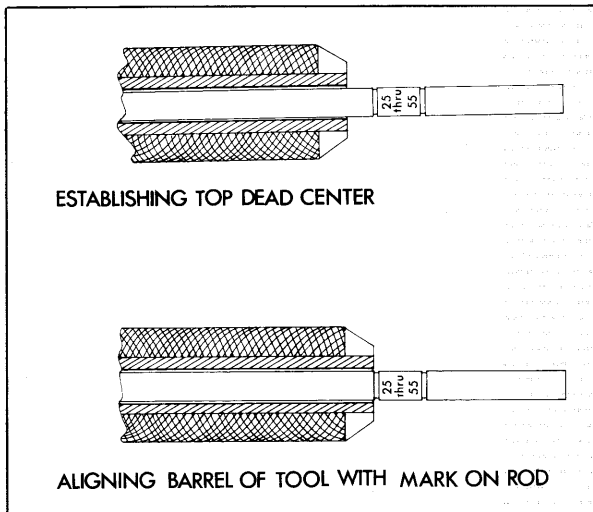

Figure 1 - Locating Top Dead Center
- E. Insert rod portion (Special Tool T2937A) of timing tool in barrel with two (2) marks identified as 25 thru 55 H.P. towards the outside.
- F. Holding the rod tightly against the piston, rotate crankshaft in direction of engine rotation and locate top dead center (point at which piston is closest to cylinder head or point at which marks on rod extend furthest away from barrel). See figure 1.
Screw barrel of the timing tool in or out as required until inside line of the timing rod lines up with edge of barrel as shown in figure 1.